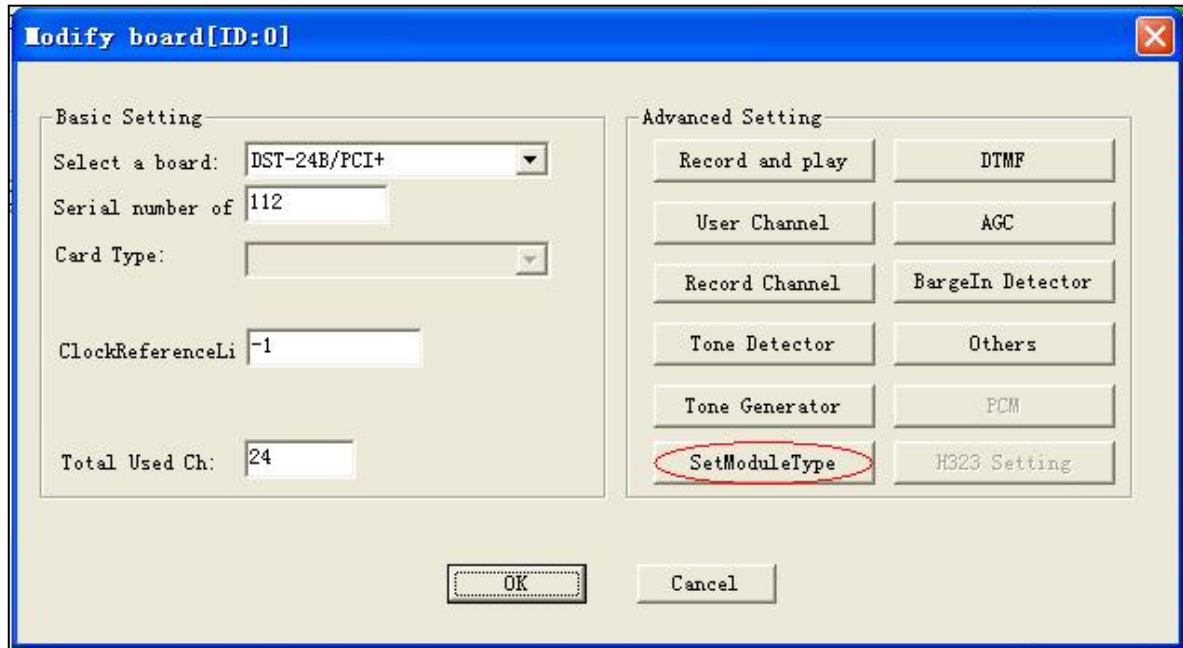

Figure 3-2
Step 2 : In the dialog 'Modify board', click the button 'SetModuleType' as shown in Figure 3-2.